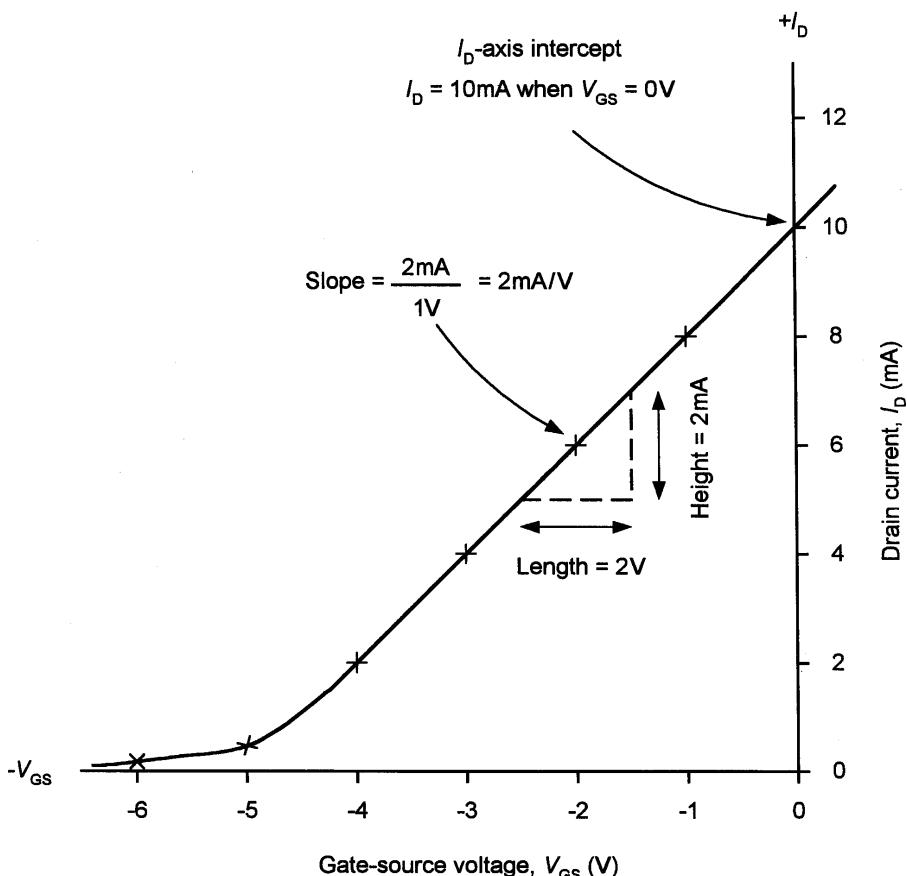

Figure A6.10 Drain current,  $I_D$ , plotted against gate-source voltage,  $V_{GS}$ , for a field effect transistor
The data has been shown plotted in Fig. A6.10. Note that, since the values of  $V_{GS}$  that we have been given are negative, we have plotted these to the left of the vertical axis rather than to the right of it.
- (b) The slope (or *gradient*) of the graph is found by taking a small change in drain current and dividing it by a corresponding small change in gate-source voltage. In order to do this we have drawn a triangle on the graph at the point where  $V_{GS} = -2\text{ V}$ . The slope of the graph is found by dividing the vertical height of the triangle (expressed in mA) by the horizontal length of the triangle (expressed in V). From Fig. A6.10 we can see that the vertical height of triangle is 2mA whilst its horizontal length is 1V. The slope of the graph is thus given by  $2\text{ mA}/1\text{ V} = 2\text{ mA/V}$ .